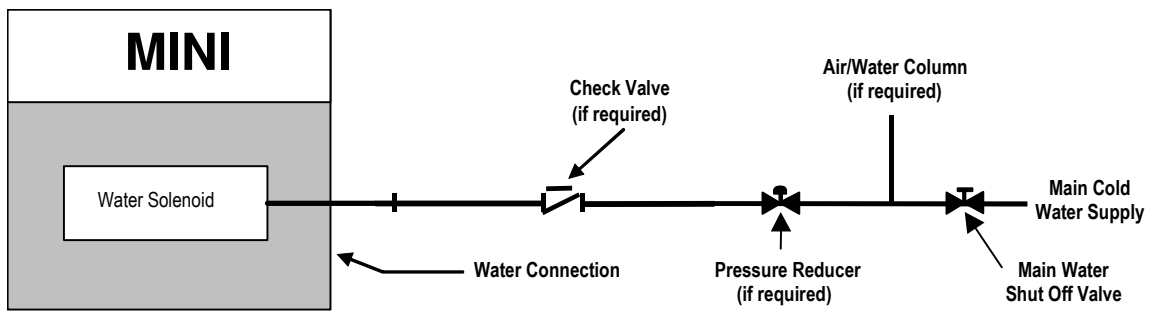

Figure 2-1
- e. MINIs have one connection point for incoming water. See Figure 2-1.